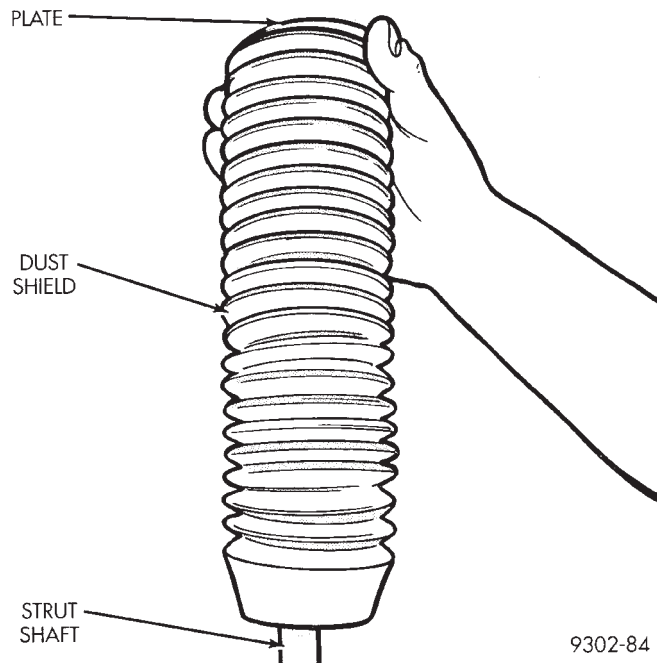

Fig. 5 Plate, Dust Shield And Jounce Bumper Remove And Replace
(7) Remove the plate, dust shield and jounce bumper as an assembly from the strut unit (Fig. 5).
(3) Install the dust shield, jounce bumper and top plate as an assembly onto the strut unit (Fig. 5).